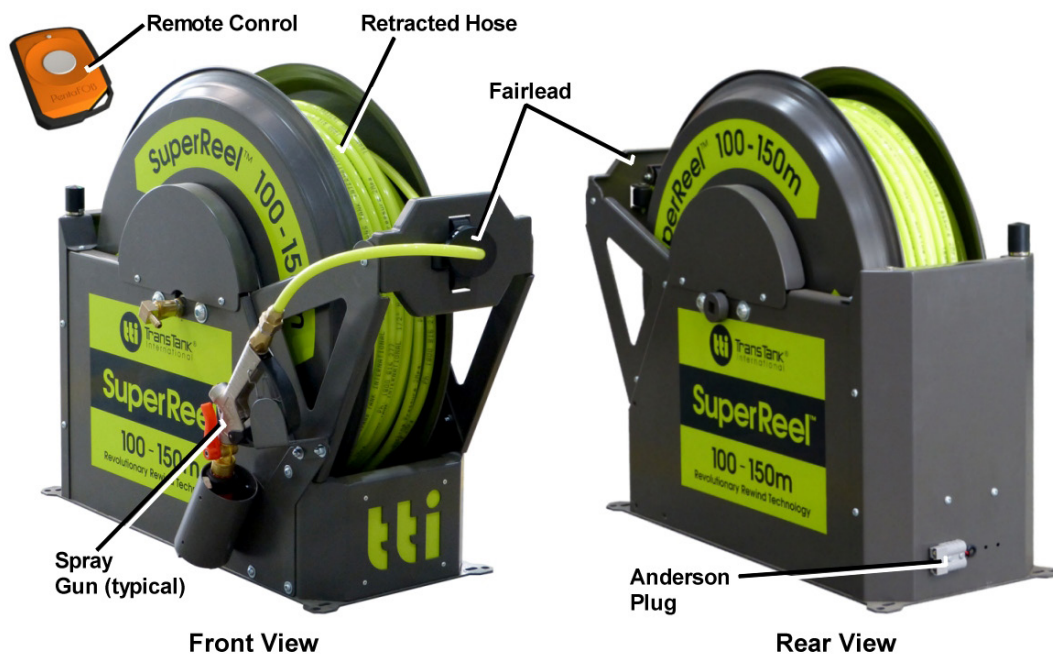

Figure 7 - SuperReel
- With the hose pressure released, the hose is ready to stow back on the SuperReel. Press the button on the remote control supplied with the SuperReel to start retracting the hose, refer to Figure 7. The hose will wind on to the reel's spool, guided by the integrated fairlead. Release the button when the hose is retracted, allowing enough slack in the hose to stow the spray gun in its holder beside the SuperReel.